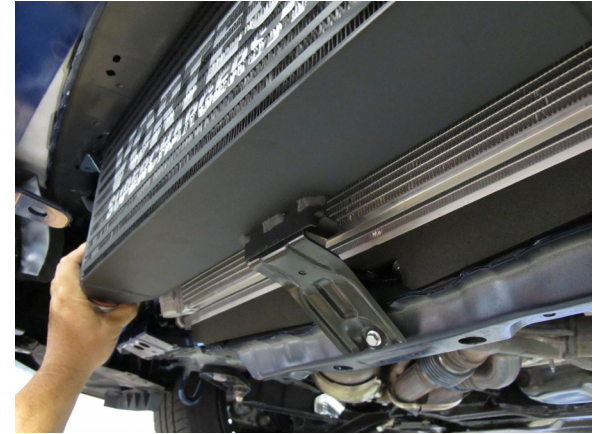

Fig. 4M
- K. With the slot mount at the bottom rear of the charge-cooler, temporarily lift the charge-cooler into place. Have an assistant pull down on the OEM support to allow the cooler to fit in place. Place the slot mount on the CAC over the support upper flange. Replace the lower bolt on the support. See Fig. 4M.